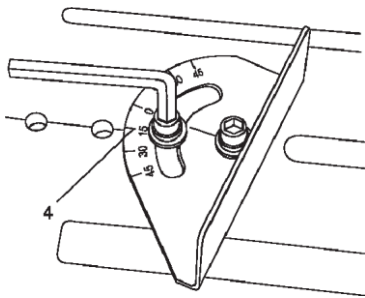

Fig 6
2. Loosen the mitre gauge cap screws by turning them counterclockwise using the 8 mm hex key supplied. (Fig 6)